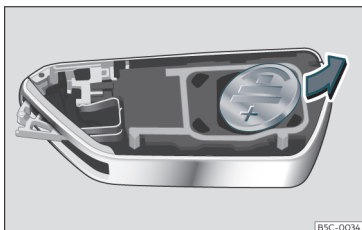

Fig. 73 Vehicle key: removing the battery.
- Extract the battery from the compartment using a suitable thin object >>> Fig. 73.
- Insert the new battery and press it into the battery compartment >>> ①.